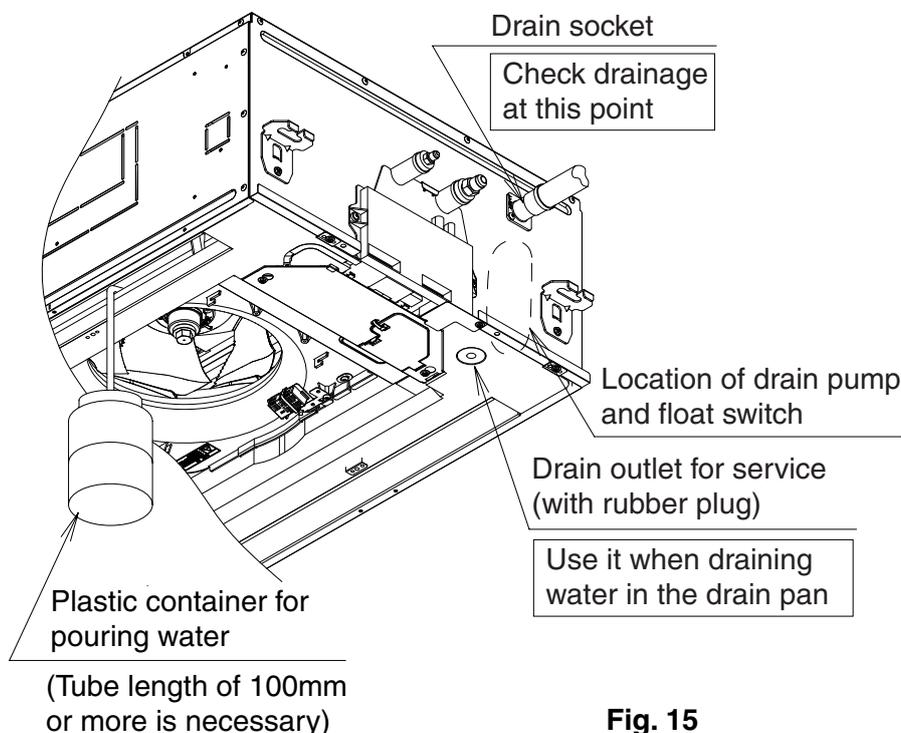

Fig. 15
- Gradually pour 1 liter of water from the air outlet into the drain pan giving caution to avoid splashing water on the electric components such as drain pump and confirm drainage by operating the indoor unit under cooling mode according to “10. FIELD SETTING AND TEST OPERATION”. (Refer to Fig. 15)
3. Gradually pour 1 liter of water from the air outlet into the drain pan giving caution to avoid splashing water on the electric components such as drain pump. **(Refer to Fig. 15)**